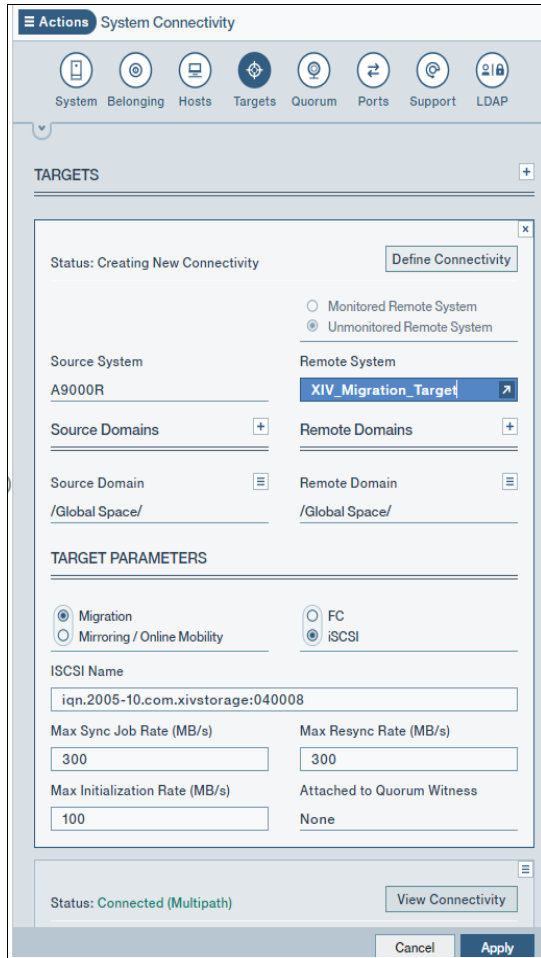

Figure 8-10 Defining a target for migration in IBM FlashSystem A9000
2. Click **Actions** → **Targets** → **View/Modify Targets** and click the Plus sign (+) icon to add a target, as shown in Figure 8-10.